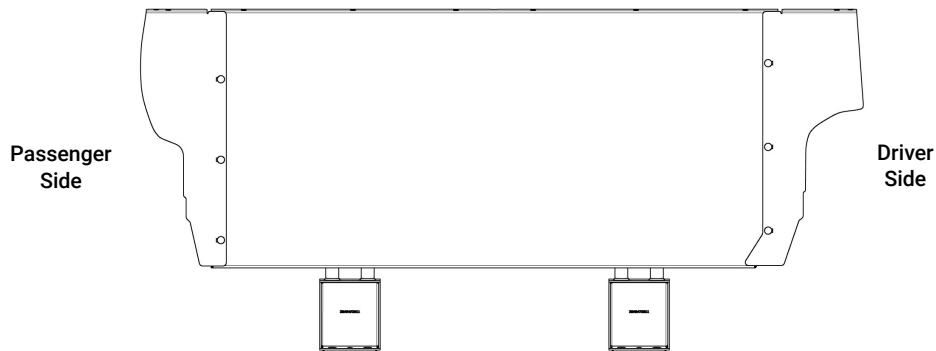

Figure 3
- Locate (6) carriage bolts [3X36] and (6) zinc whiz nuts [3X16Z] and place (3) of each on either side of the vehicle by the front panel.
- Align the (3) slots in the Driver Wing [3CSC472021] with the corresponding holes on the driver side of the front panel.
- Repeat Steps B. and C. for the passenger side using the Passenger Wing [3CSC472022] and the remaining fasteners prepared in Step A. Figure 3 shows both Wings installed on the Front Panel.